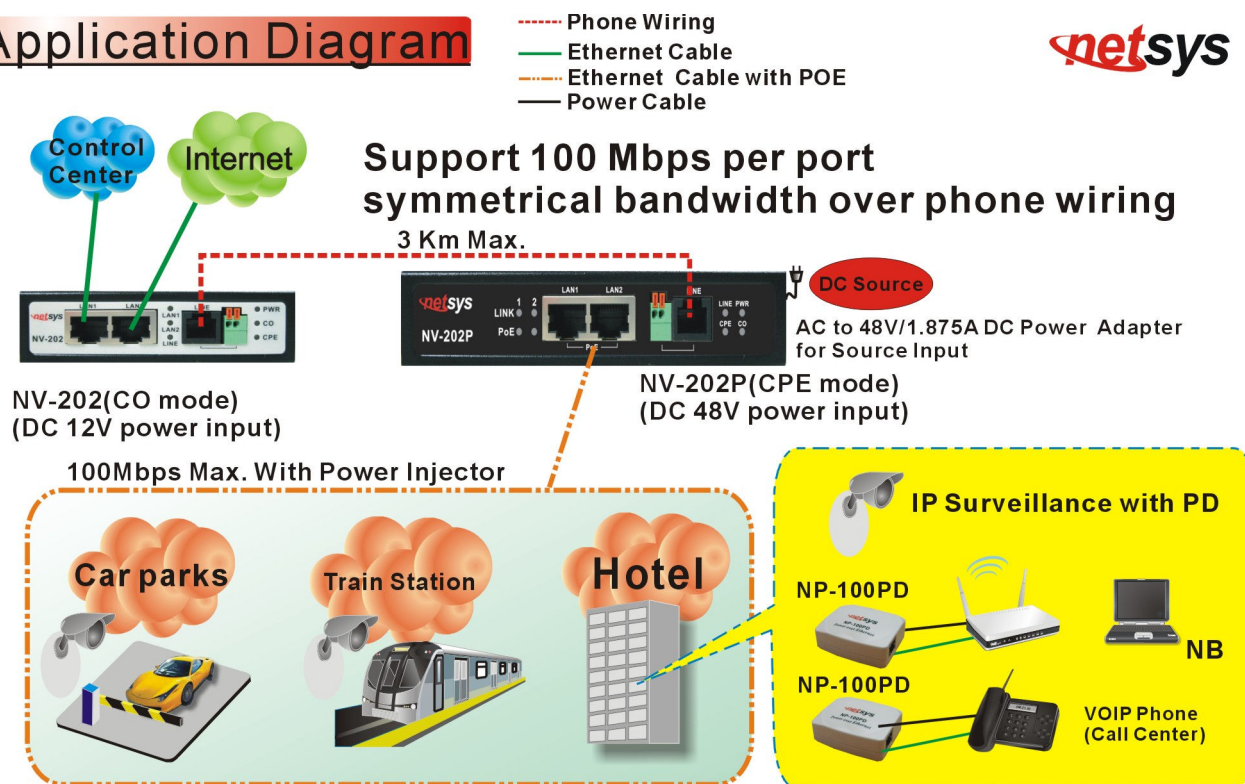

Figure 2.6 NV-202 / NV-202P point to point application diagram
1. User can use NV-202 bridge (CO mode) to connect NV-202P bridge (CPE mode), or use NV-202P bridge (CO mode) to connect NV-202 bridge (CPE mode) that to do a variety of applications. The bridge's line port supports 100Mbps maximum for data service across existing phone wiring. It is easy-to-use which do not require installation of additional wiring. Every modular phone jack in the home can become a port on the LAN. Network devices can be installed via a telephone wire in any suitable distance.(depending on the speed) (Figure 2.6)